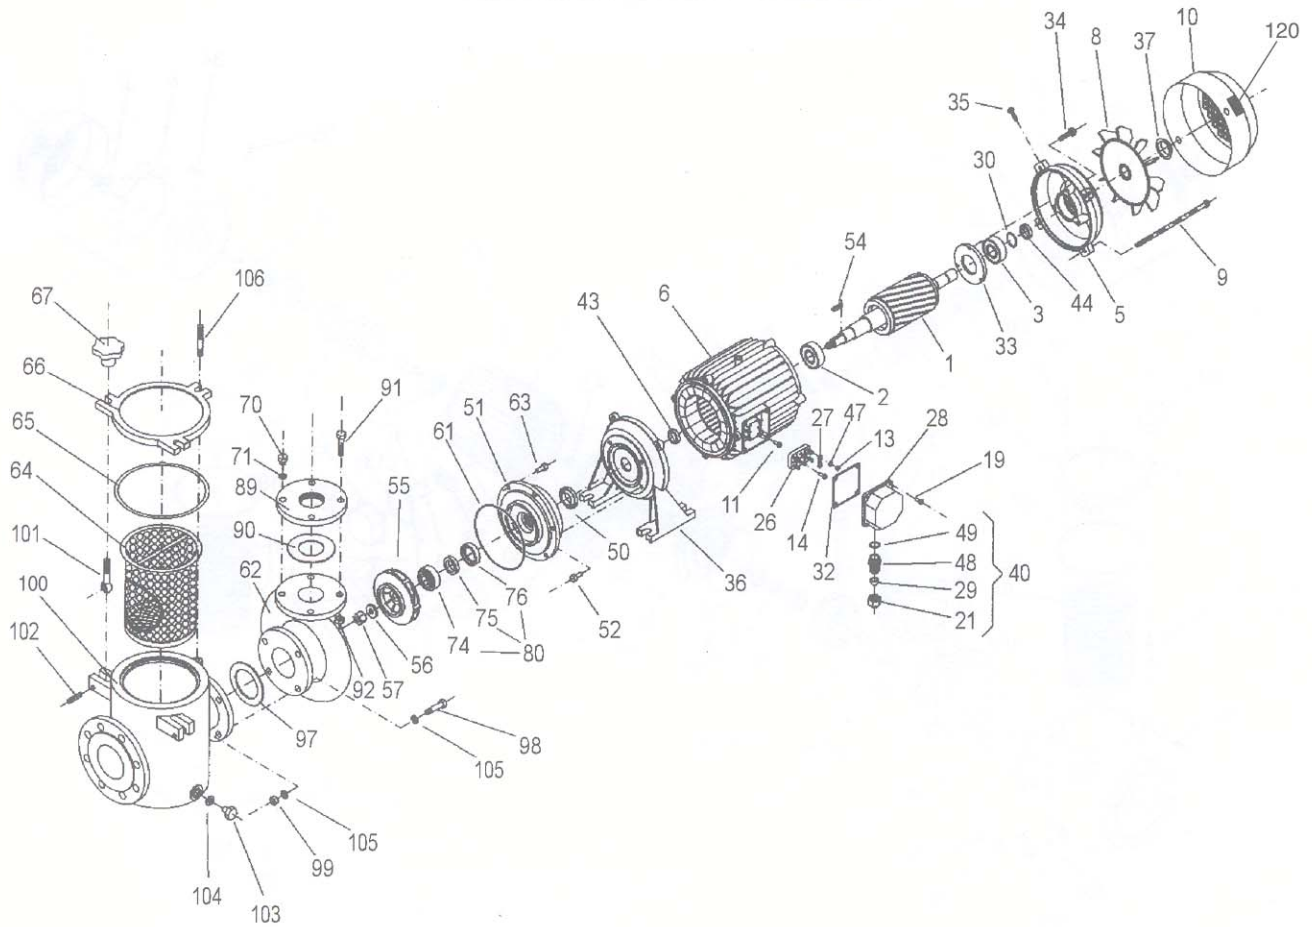

Fig. 3
- Loosen and remove the supply cables on the connection box (26) (fig. 3).
In order to dismount and assemble the electropump, please see the detail drawing. (Fig. 3). In order to remove the motor from the hydraulic casing (62), remove the four screws (45)(39)(52) and lever so as to separate one part from the other one.
- Assemble the mechanical seal (80). Press this (43) until it locates into the space; the seal will have been lubricated with water beforehand.
- Assemble the impeller (55) on the shaft (1), affixing it with the key (57), impeller washer (56) and impeller nut (57). In this way, the two halves of the mechanical seal are joined.
- Fix the motor to the pump casing (62) by means means of the four screws (63), impeller washer (56) and pump housing nut (107).
To order any spare parts, indication must be given of the part, number shown on the detail drawing (fig 3) and nameplate ratings (120).
FD14 - 15 - 16	Fig. 3 Pág. 15
FD17 - 18	Fig. 3 Pág. 16
FD19	Fig. 3 Pág. 17
FD20 - 21 - 22	Fig. 3 Pág. 18